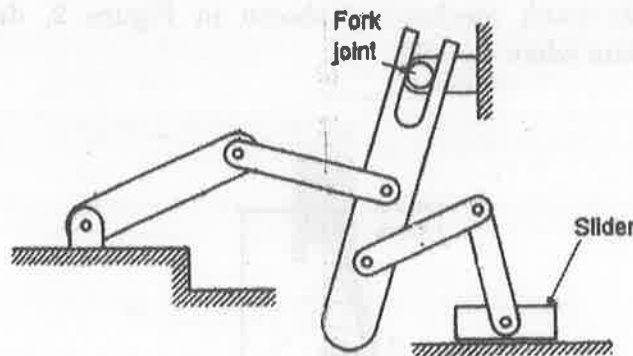

Figure 4
- (ii) For the mechanism shown in Figure 4, calculate the degrees of freedom. (5)